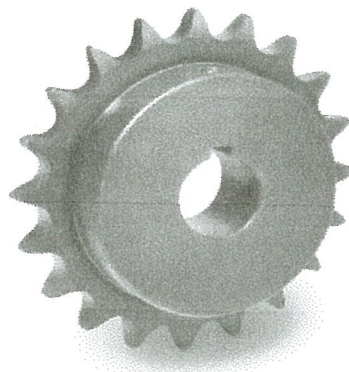

Figure Q6(d)
- Q6** (a) Explain **FOUR (4)** reasons on why joining process is important.
- (c) An alloy sprocket as **Figure Q6(d)** will be manufactured by powder metallurgy process. Plan the necessary usual powder metallurgy production sequence to be carried out in order to produce the alloy sprocket.